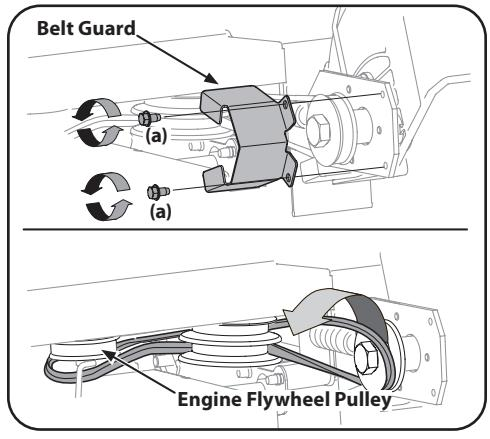

Figure 4-4
3. Remove the spindle sheaves belt guard by removing the two self-tapping screws (a) which secure it to the blade plate assembly. See Figure 4-4.
4. Carefully remove the belt from off of the pulleys, again making sure to note the orientation of the belt. Discard the belt. See Figure 4-4.
6. **NOTE:** Make certain that the "V" side of the belt is seated into the top pulley and the flat side of the belt is seated into the bottom pulley. See Figure 4-4.